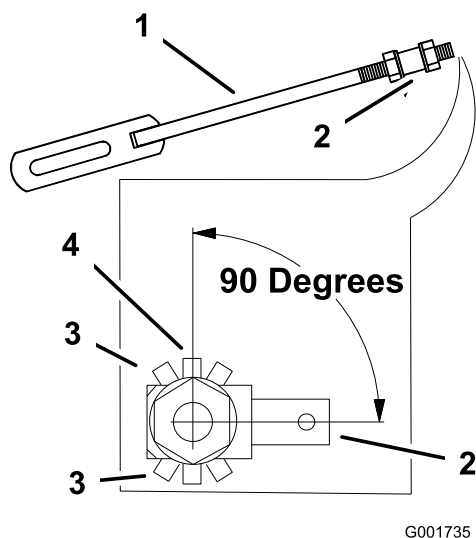

Figure 33
**Note:** Make sure flat part of linkage is perpendicular to pin part of swivel (Figure 33).